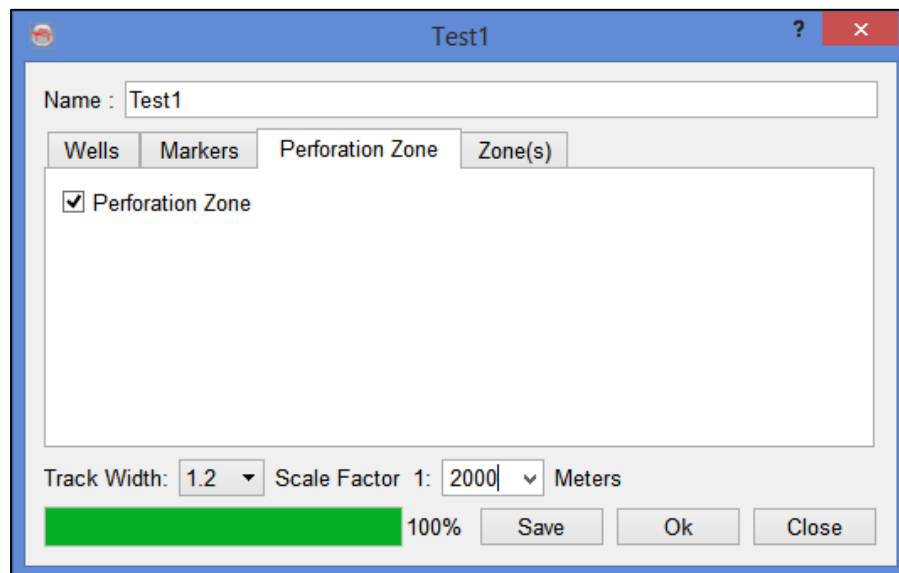

Figure 5.9 “Perforation Zone” option in Correlation view.
Step 8: User can set the “Perforation Zone” flag check to display the Test zone of each well as shown in figure 5.9.